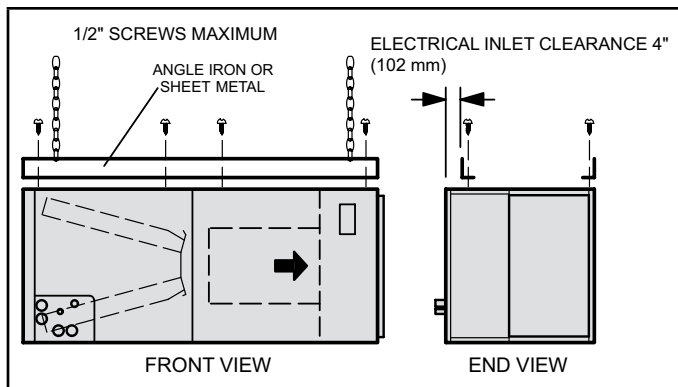

FIGURE 5. Suspending Horizontal Unit
- 4 - If the unit is suspended, the entire length of the cabinet must be supported. If you use a chain or strap, use a piece of angle iron or sheet metal attached to the unit (either above or below) to support the length of the cabinet. Use securing screws no longer than 1/2" to avoid damaging the coil or filter as illustrated in figure 5. Use sheet metal screws to connect the return and supply air plenums as required.
- 14 - If suspending the unit, it must be supported along the entire length of the cabinet. If using chain or strap, use a piece of angle iron or sheet metal attached to the unit (either above or below) so that the full length of the cabinet is supported. Use securing screws no longer than 1/2" to avoid damage to coil or filter, as illustrated in figure 5. Connect return and supply air plenums as required using sheet metal screws.